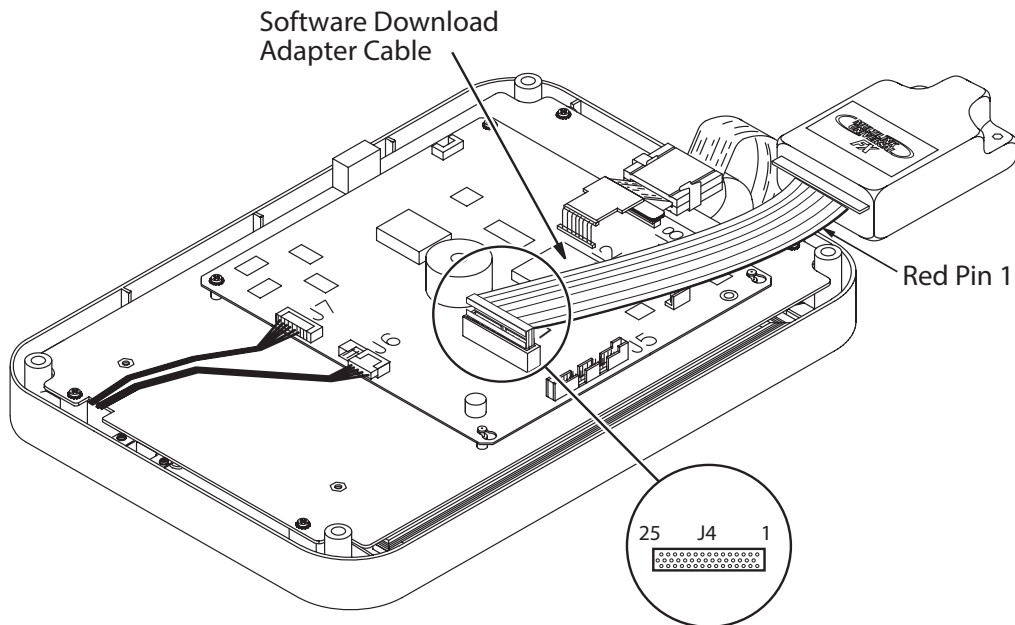

Figure 7-2-3 Console Software Download Cable orientation
4. Connect the Software Programmer cable to the console CPU board as shown in Figure 7-2-3.